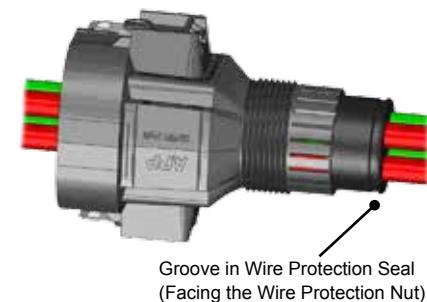

Figure 2
- Insert wire protection seal into shell. (See figure 2)